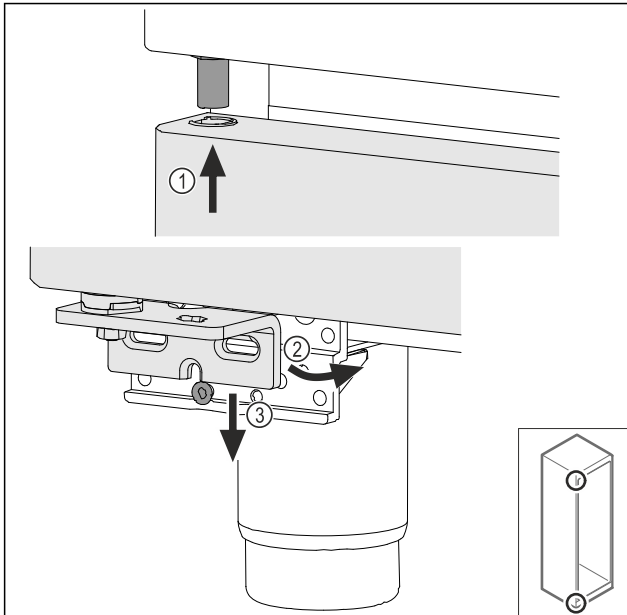

Fig. 69
- ▶ Insert the door slightly tilted at the top Fig. 69 (1), align the door straight Fig. 69 (2) and place it on the bottom of the swap bearing block screw Fig. 69 (3).